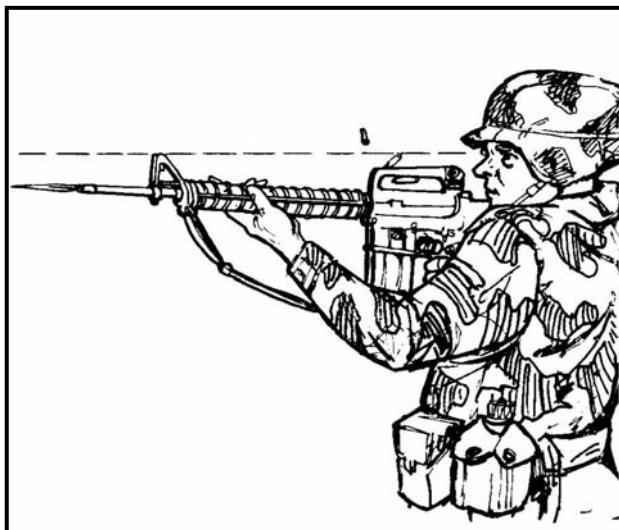

Figure 7-15. Aimed quick fire.
(1) **Aimed.** When presented with a target, the soldier brings the rifle up to his shoulder and quickly fires a single shot. His firing eye looks through or just over the rear sight aperture. He uses the front sight post to aim at the target (Figure 7-15). Using this technique, a target at 25 meters or less may be accurately engaged in one second or less.